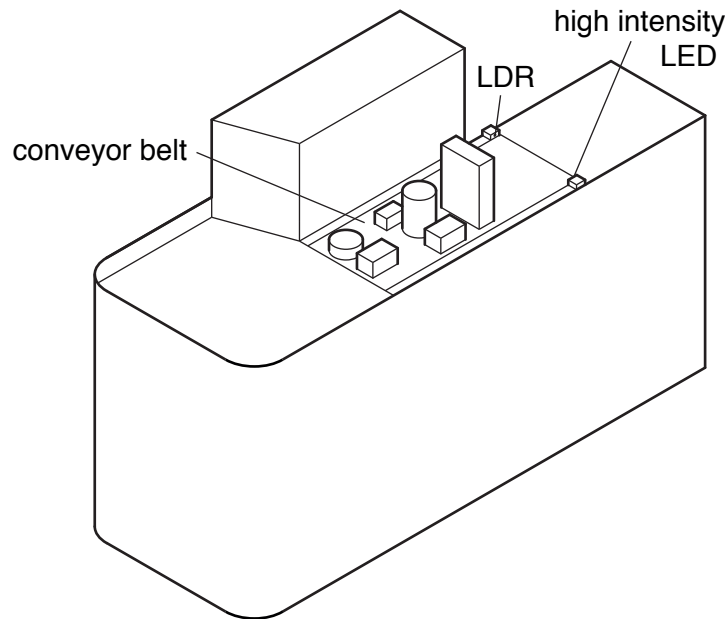

Fig. 19
- (d) Fig. 19 shows a conveyor belt in a supermarket checkout area. The belt keeps going until an item of shopping blocks the path between the light source and an LDR on the other side of the conveyor belt.